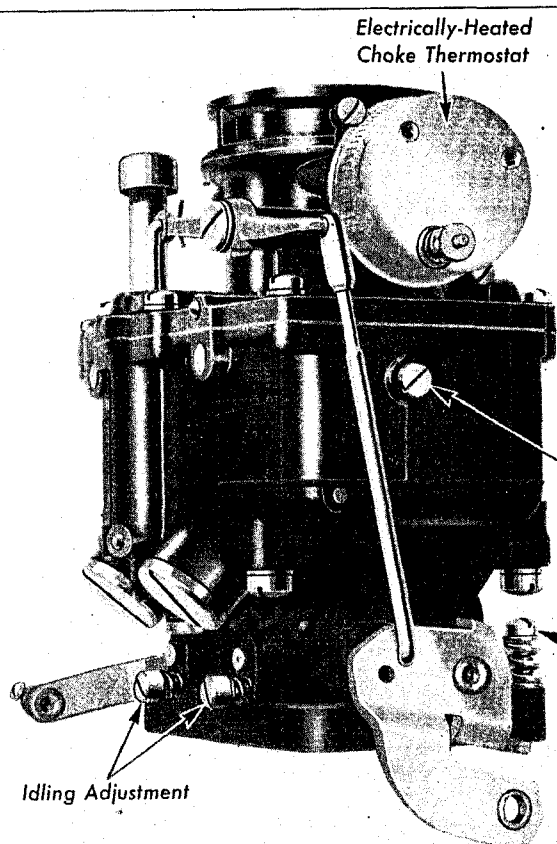

Fig. 55 Stromberg Carburetor
2. Set throttle stop screw so that car runs approximately 6 m. p. h. in high gear on level road. See Plate 42, Fig. 55.
3. Adjust the two idle adjustment screws so that the engine runs smoothly without loping or stalling at this speed. See Plate 42, Fig. 55.